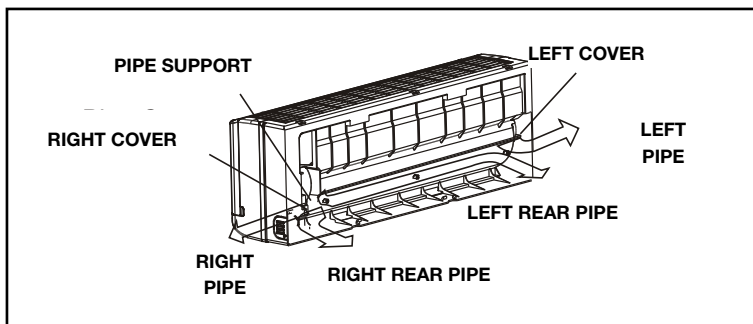

fig.4
1. Remove the cover protecting the pipe from the side panel (on the right or left hand side, according to the direction in which the pipe itself extends) (fig. 4).